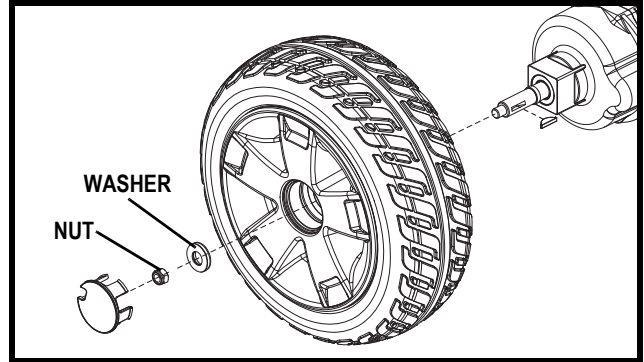

Figure 25. Solid Tyre Wheel Removal
3. Remove the drive wheel nut and washer from the axle. See figure 25.